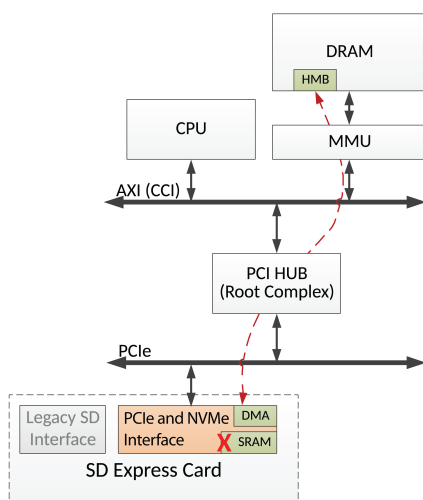

Figure 6 – Host memory buffer description
- High performance architecture usually requires extra controller resources. For example, embedded SRAM which is quite expensive compared to DRAM, see Figure 6